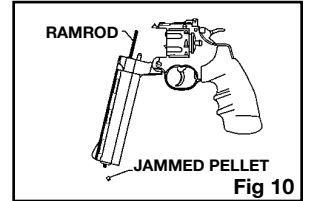

Fig 10
- If the jam is in the barrel, remove the pellet clip. Starting at the breech push the jammed pellet out of the muzzle end of the barrel using a ramrod of the proper size (not included). (Fig. 10) The barrel could be damaged if the proper sized ramrod is not used.